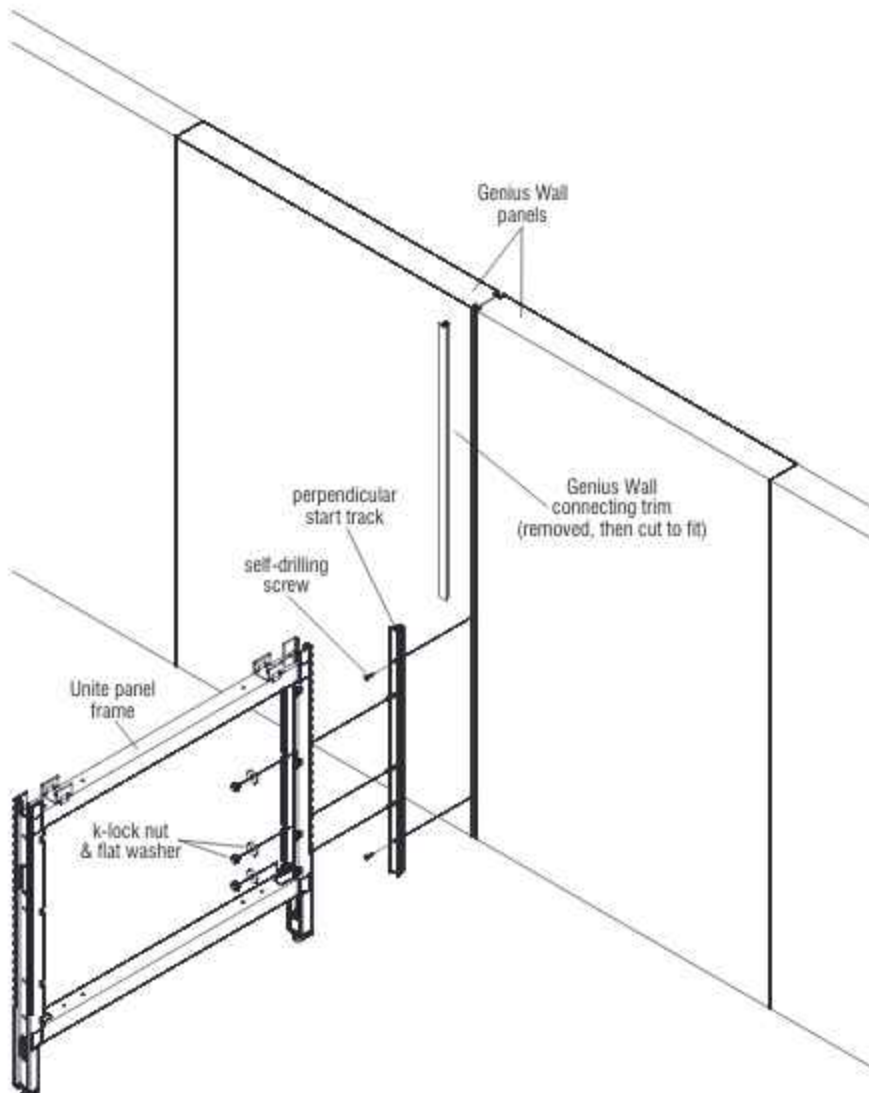

Figure 21 - Unite-to-Genius Wall Installation Start
1. Locate the "perpendicular start track" and unscrew the pre-installed self-drilling screws from the track. Take the Unite panel frame which will join to Genius Wall, and loosely attach the perpendicular start track to the vertical end of the Unite panel frame using the studs of the track, and k-lock nut (Figure 21).
2. Position the Unite panel frame with loosely attached perpendicular start track up to the Genius panel joints location where it will install, then mark onto the previously installed Genius Wall connecting trim. Mark the height of the start track to the connecting trim and Genius wall, then remove the Unite panel frame and start track. Remove the Genius Wall connecting trim, cut and remove the lower section of the connecting trim, then replace the connecting trim to above where the Unite panel frame will join the Genius panel joints (Figure 21).
3. Uninstall the perpendicular start track from the Unite Panel frame. Press the start track into the Genius joint at the location marked on the panel joints, just below the Genius Wall connecting trim. Re-insert the two self-drilling screws (removed in step 1) to the top and bottom screw locations, then tighten the screws through the start track and into the joint between the panels as illustrated (Figure 21).
4. Move the Unite panel frame into position, onto the studs of the perpendicular start track, then secure using k-lock nuts and flat washers as illustrated (Figure 21).
2. Follow instructions, "Perpendicular Panel Frame Start - Unite-to-Genius Wall Installation", steps 1 through 4 (Figure 21) on previous page to install Unite panel with vertical stacking post onto Genius Wall (Figure 21).